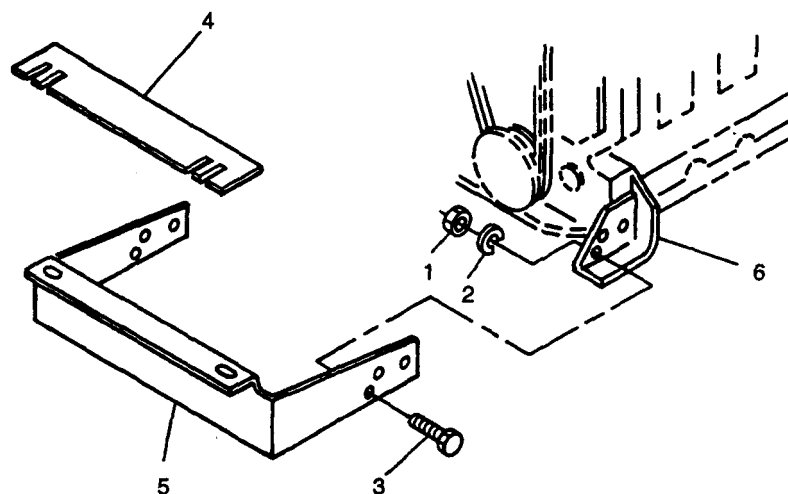

FIGURE 3-16. Radiator Mounting Bracket
- j. Install bolts (13), lockwashers (14), and washers (15), tightening bolts (13) slowly to ensure even and proper seating of generator housing lip to flywheel housing adapter (44). Torque bolts (13) to 25 ft-lbs (34 Nm).
- k. Secure engine mount brackets (31) to skid base with bolts (19), snubbing washers (18), washers (17), and nuts (16). Torque bolts (19) to 75 ft-lbs (102 Nm).
- l. Align scribe mark on generator drive disc and engine flywheel, and install bolts (11) and washers (12) securing generator drive disc to engine flywheel. Torque bolts (11) to 35 ft-lbs (47 Nm).” “
- m. Install screen/cover (10) on generator case with screws (8), washers (9), lockwashers (7), and nuts (6).
- n. Loosen nuts (45), adjust bolts (46) to obtain 0.5 inch (12.7 mm) minimum clearance with skid base. Torque nuts (45) to 150 ft-lbs (204 Nm).
- o. Install radiator mounting bracket (5, FIGURE 3-16) and shim(s) (4) with bolts (3), lockwashers (2), and nuts (1) to engine mount brackets (6).